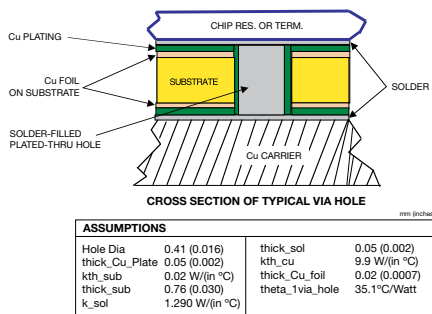

Figure 18: Via-hole cross section and parameters
**Via holes: See Figure 18. Structure – plated through with 2-mil copper, filled with Sn63 solder; Diameter = 16 mils; edge-to-edge spacing = 0.5 x diameter = 8 mils.**